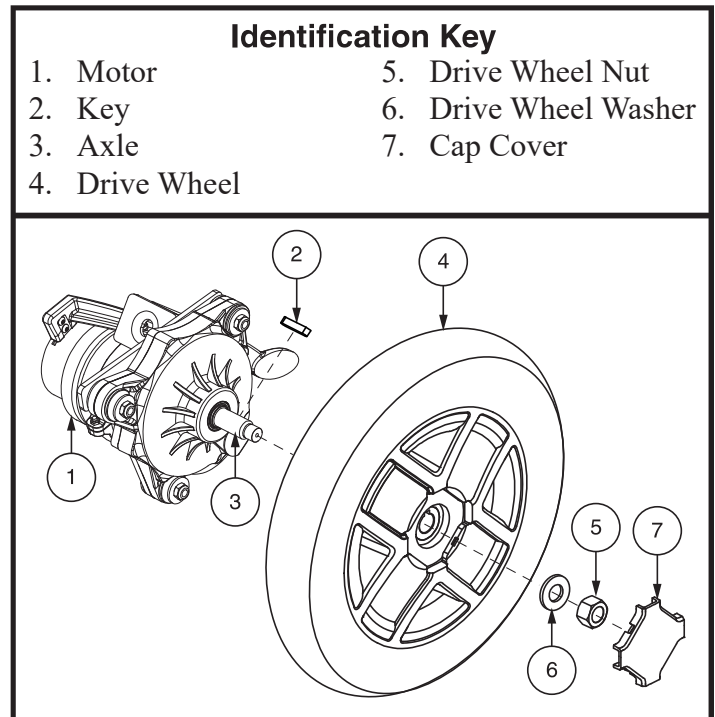

Figure 13. Drive Wheel Removal
4. Remove the cap cover, drive wheel nut, and washer from the axle. **See figure 13.**
6. Remove the screws from the rim assembly and separate the front and rear rim. **See figure 13.**
A battery wiring diagram is printed on a decal located on the front battery tray. See **figure 13**. See VI. “Batteries and Charging” for correct battery specifications.
9. Install new batteries into the power base. Make sure the terminals of each battery are facing toward each other. See **figure 13**.